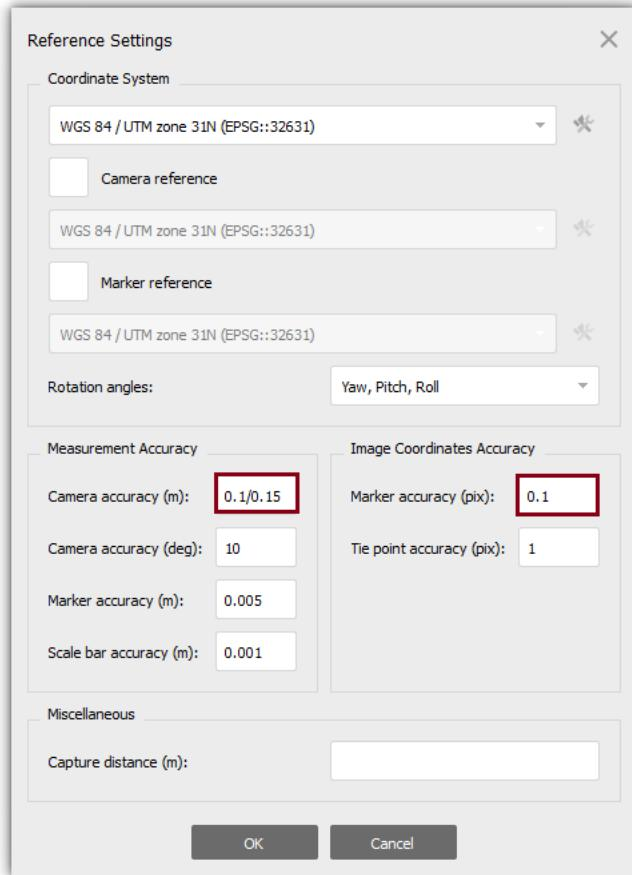

Figure 4.6 Metashape Reference Settings
1. Click the Reference settings tool on the Reference pane toolbar and adjust default setting values as in Figure 4.6.